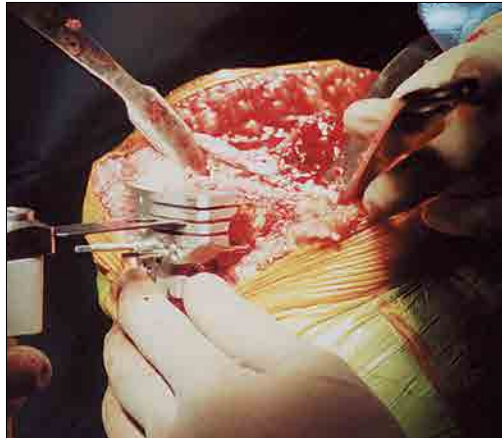

Figure 5
- 5mm and 10mm augment cuts can be made with the tibial resection guide (Figure 5)